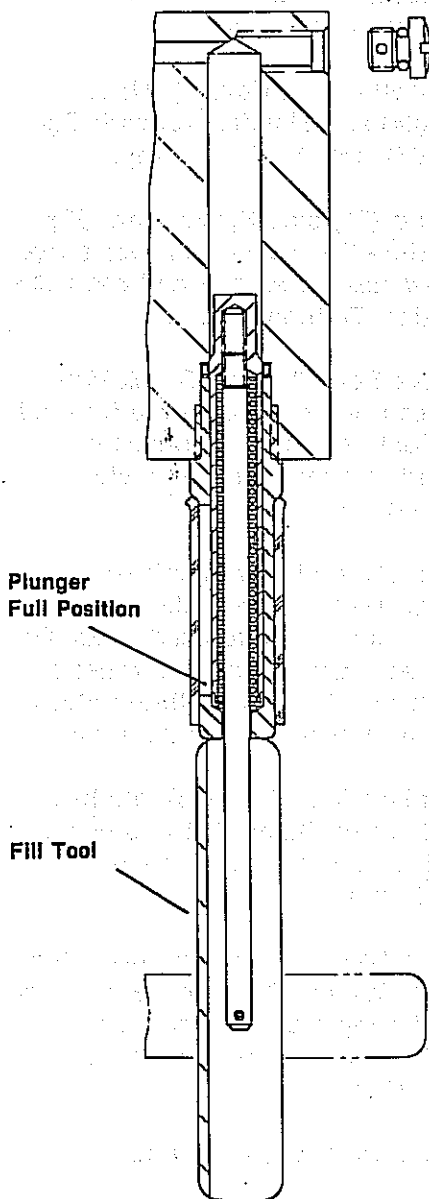
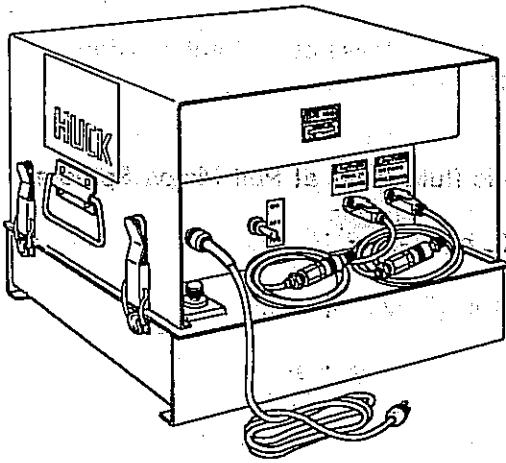

Figure 4. Filling Reservoir
Figure 5. Fill and Bleed Unit 970-100
- a. Unscrew Bleed Plug (25), and remaining fluid will drain out of reservoir.
- b. Screw Fill Tool, P/N 112465, into plunger—see Figure 4. Pull plunger into housing, and lock in full position by tilting handle.
- d. Unlock fill tool. Loosen Plug (19) and allow a few drops of fluid to drain out. Tighten plug. Refill reservoir and unlock fill tool.
25. Filling tool with 970-100 Fill and Bleed Unit: (See Figure 5.)
- a. Unscrew Bleed Plugs (25) in head and (43) in handle.
- b. Remove Plug (27), Springs (30) and (31), Valve Guide (32), and Steel Ball (33). Reinstall Plug (27).